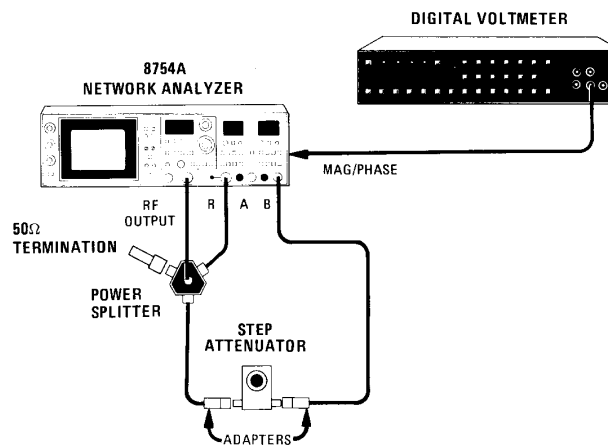

Figure 4-24. MAG/PHASE Output Accuracy Test Setup (Magnitude)
1. Connect equipment as shown in Figure 4-24 with step attenuator set at 20 dB.